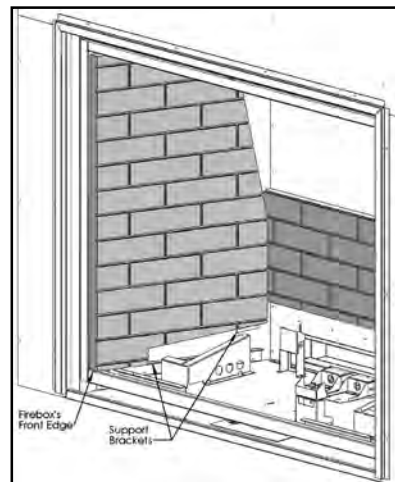

Figure 48: Left Firebox Liner Panel on Front Edge
- 2) Install the Left Firebox Liner Panel; it sits on the bottom front edge of the firebox (see Figure 48), a support bracket at the lower rear of the firebox, and is held in by a retainer at the top of the firebox. Adjust the panel retainers as required.